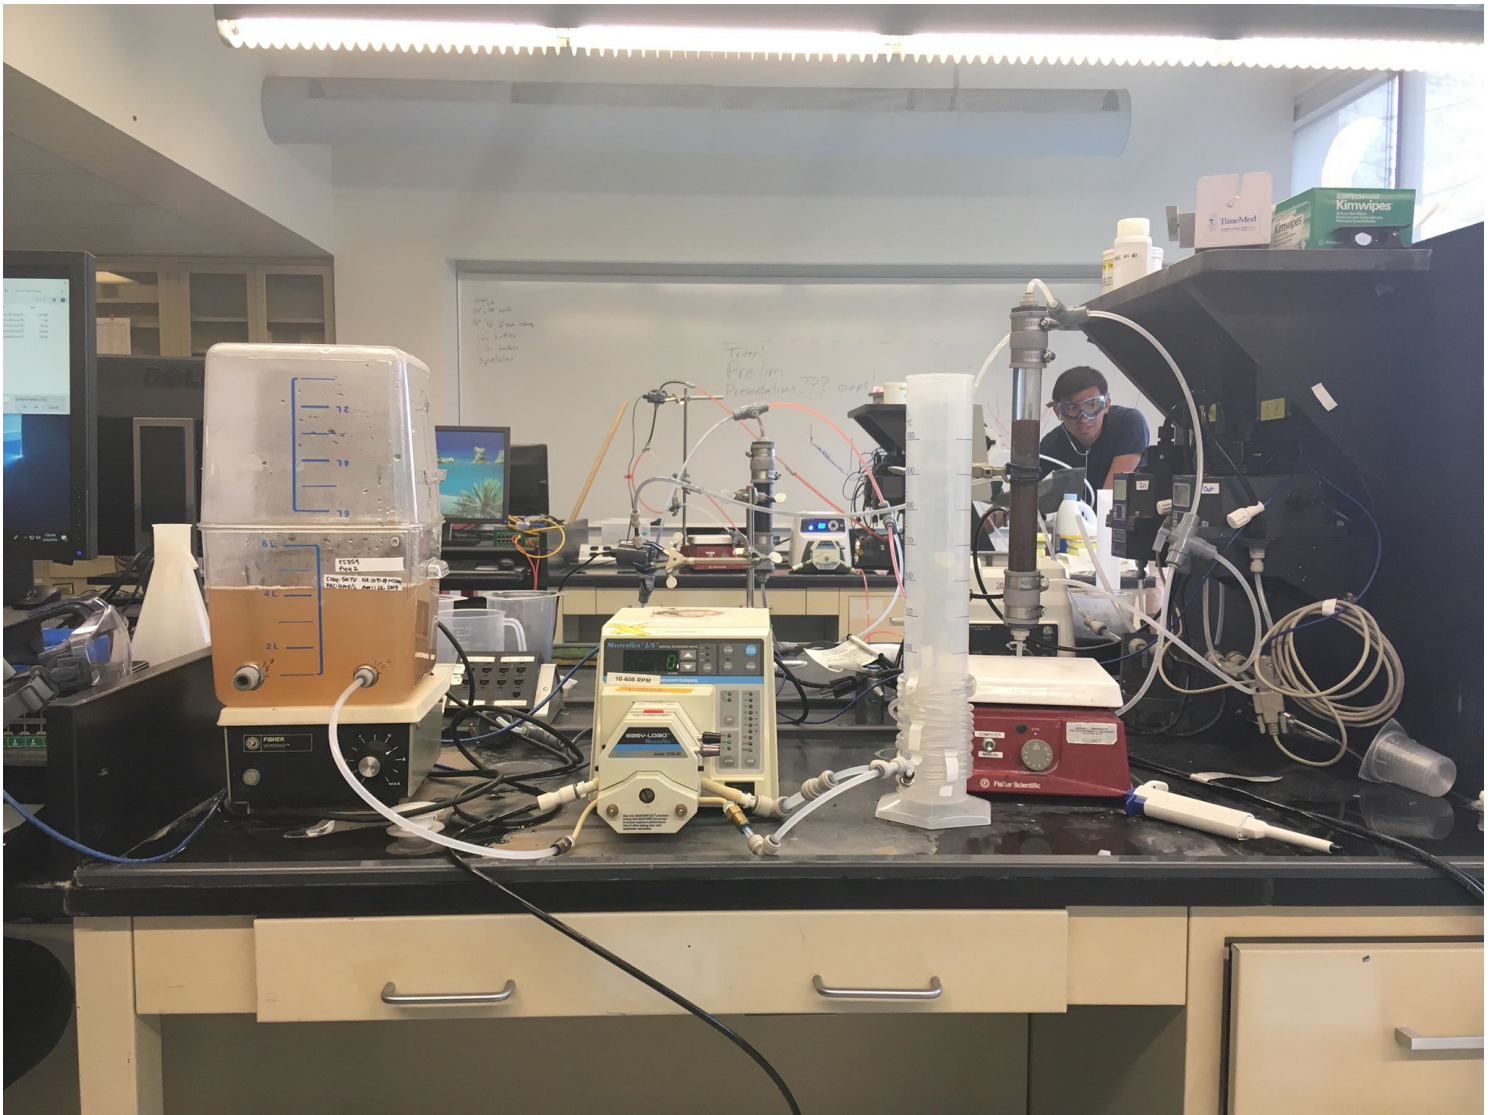

Figure 2: Lab apparatus set-up
1. Prepare the reactor solution by mixing 561.4 mg of clay, 56.1 mg of humic acid, and specified amount of coagulant in a 6L tank. This should be then diluted by tap water to create a 4L solution. Make sure the stir bar is in the center of the tank as to prevent particles from settling. To prevent evaporation, a second 6L container was placed on top of the reactor as seen in Figure 2.
4. Run forward filtration. Keep in mind that tubing size for the water line is bigger, so the rate at which water is depleted is much faster than the rate at which the solution in the reactor is depleted. For example, the back tube in Figure 2 is connected to a 20L jerrycan below the lab apparatus, which had to be filled approximately every hour.